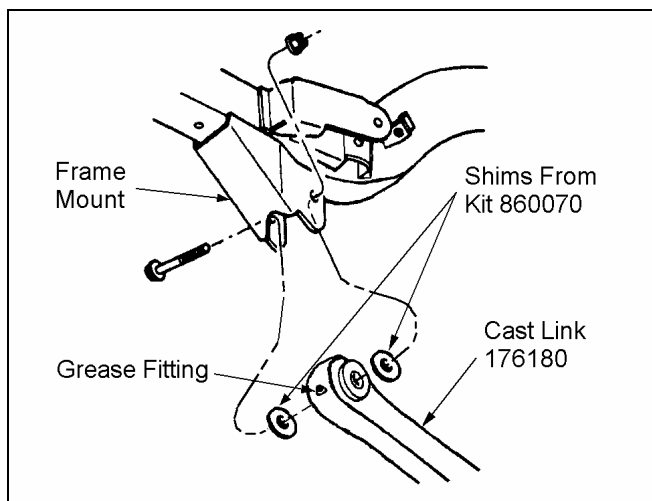

Figure 13
- 2) ☐ Install new Rancho cast link 176180, along with four shims from kit 860070, to the frame and axle brackets. See figure 13. Use original hardware but do not tighten.